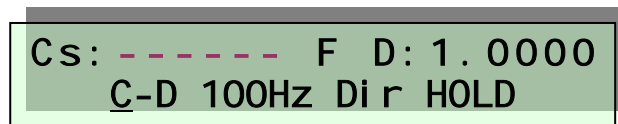

Figure 3-3 Overload
4. When measurement range is set to HOLD, if the impedance under test exceeds the effective measuring range of the locked measurement range, overload symbols will be displayed as shown in Figure 3-3: